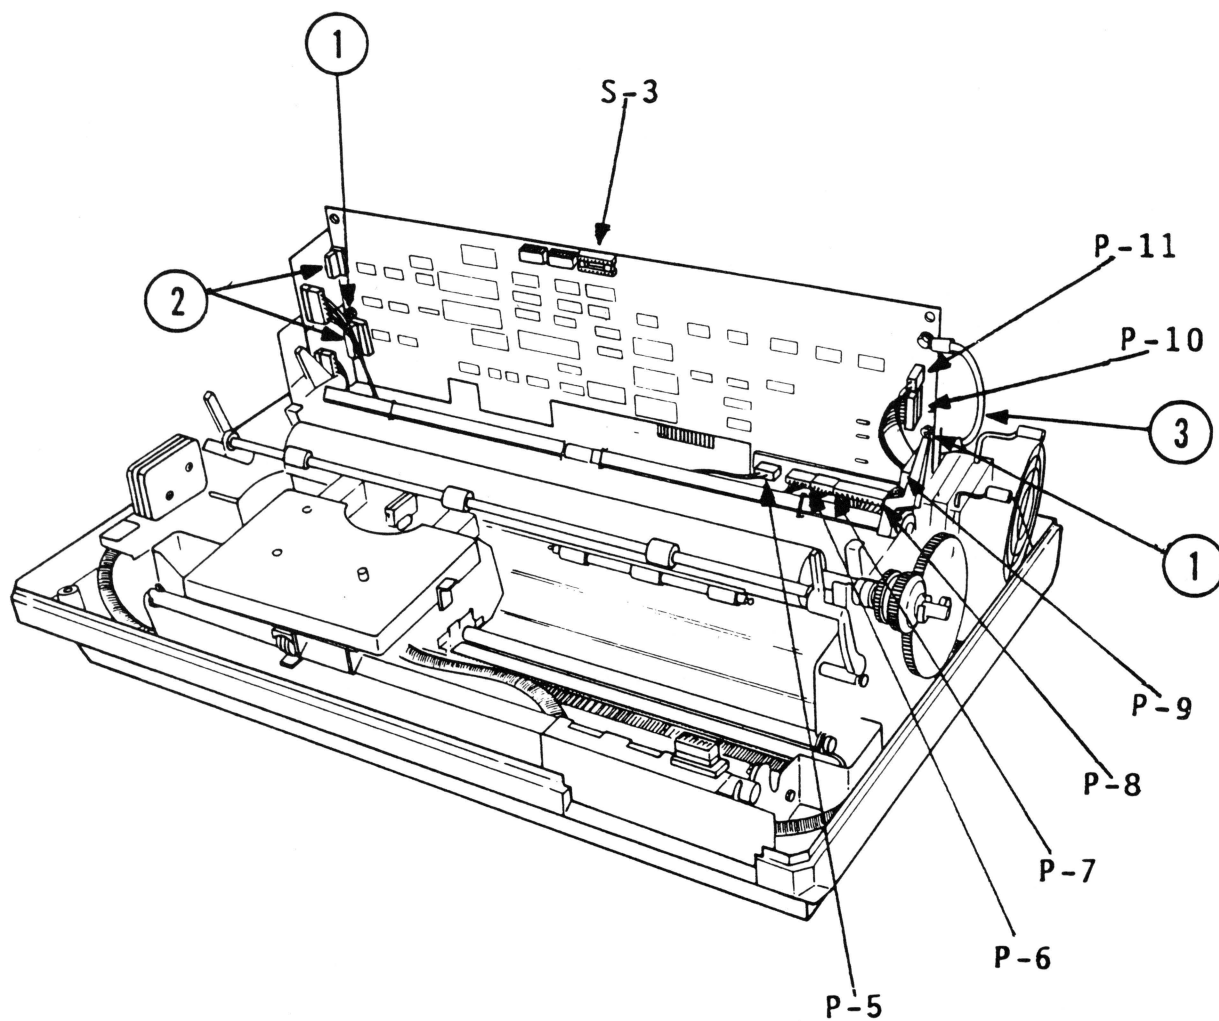

FIGURE 1
4. Disconnect the ground wire from the upper right side of the PCB (see Figure 1, #3).
6. There are two mounting holes midway between the top and bottom of the board. Install the board on the fasteners using these mid-point holes. (See Figure 1, #1.)
7. Unplug the two encoder PCB's from the extreme left side of the main PCB. (See Figure 1, #2.)